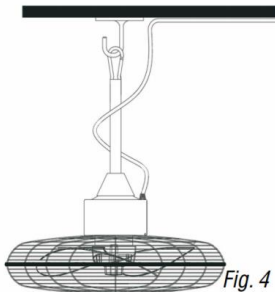

Fig. 4
2. Secure the fan to the gazebo center roof hook (Fig. 4).